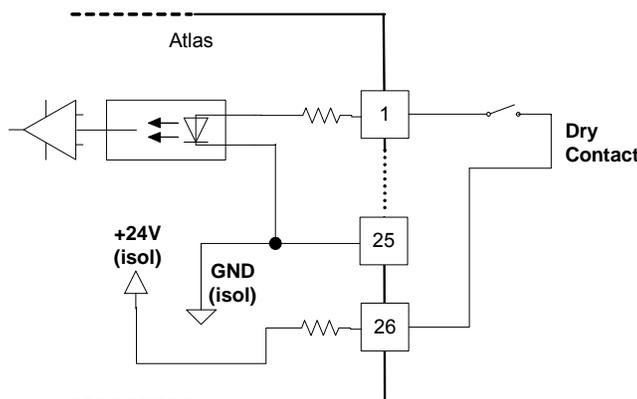

Figure 4-9. Discrete Input Interface to the SmartCore Board
- Refer to Figure 4-9 for discrete input wiring.